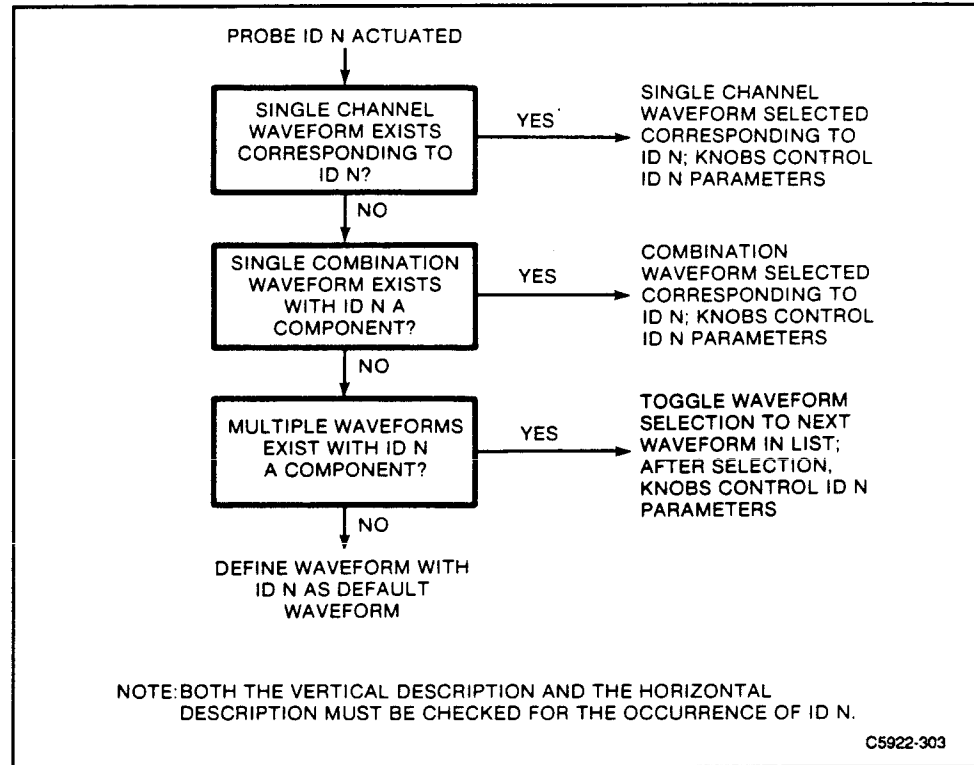

Figure 3-3. Sequence of decisions used to select a new waveform in response to probe ID button.
2. If the **Probe ID Function** (in the **Probes** pop-up menu of the Utility major menu) is set to **Waveform Select/New Wfm**, a waveform will be selected. Figure 3-3 shows the sequence of decisions used to select a new waveform.
3. If the Probe ID Function is set to **Wfm Select/New Wfm & AutoSet**, then the decisions shown in Figure 3-3 will be made, and the resulting selected waveform is autoselected.